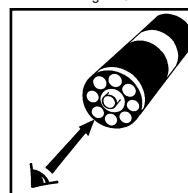

Figure 6
- a. **Low Range Comparator (fig. 6):**